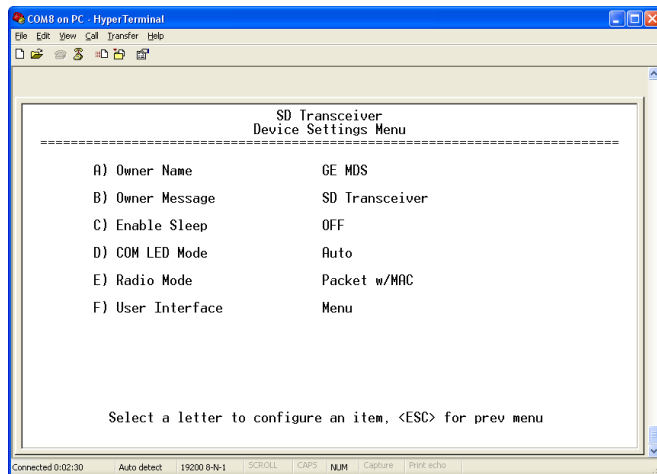

Figure 23. Device Settings Menu
1. At the Device Settings Menu (Figure 23) select **Owner Name** or **Owner Message** from the menu. The field to the right clears and a flashing cursor appears.
The ability to enter Sleep Mode is controlled through the Device Settings Menu (Figure 23), but an active low on Pin 4 of the COM2 port is what actually puts the radio to sleep. This signal must be supplied by the equipment connected to the radio (*i.e.*, RTU, PLC, etc.).
The behavior of the radio's COM/DATA LEDs may be configured using the Device Settings Menu (Figure 23 above). By default, the LEDs show dual port activity (menu selection **Auto**). Four LED modes may be selected as summarized in Table 3.
The radio can operate in one of several modes. The available selections are: Packet, Packet with MAC, x710, and Transparent. To view or change the current operating mode, access the Device Settings Menu (see Figure 23 above). The radio mode is displayed on this menu. To change the mode, follow these steps: